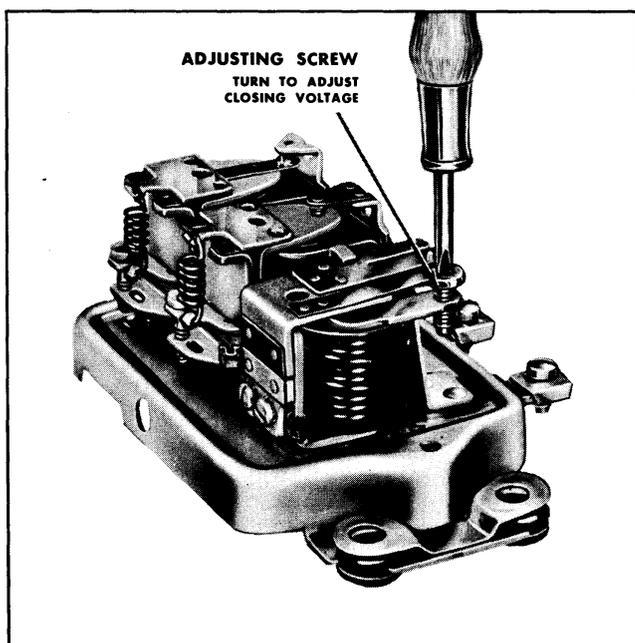

Fig. 13-12 Adjusting Closing Voltage on Cutout Relay
3. Adjust the closing voltage by turning the adjusting screw. (See Fig. 13-12) Turn the screw clockwise to increase the setting and counterclockwise to decrease the setting.